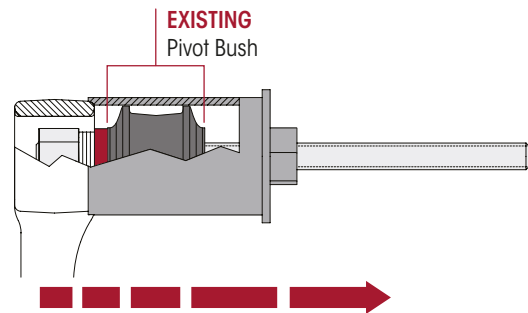

Figure 89: Tool Configuration AFTER Removal
7. Using a 3/4" impact wrench, rotate the drive screw in a continuous motion without stopping until the pivot bush is removed from the end hub. The existing pivot bush will enter into the receiving cylinder. Refer Figure 89.